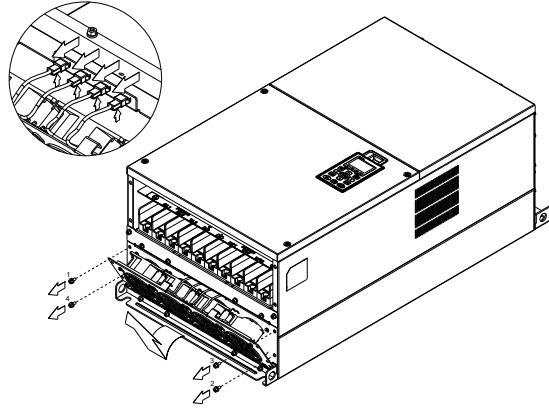

Figure 1
1. Loosen the screws and plug out the power of fan before removing it (figure 1). Screw torque: 24–26 kg-cm / [20.8–22.6 lb-in.] / [2.4–2.5 Nm]